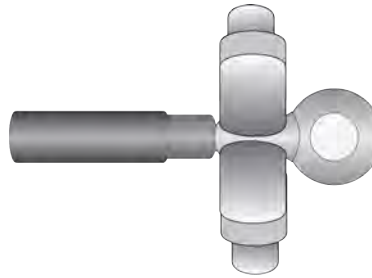

Figure 35. Crimping the Ring Terminal Lug
- Crimp the ring terminal lug with a wire crimping tool to secure it on the grounding wire. Refer to Figure 35.